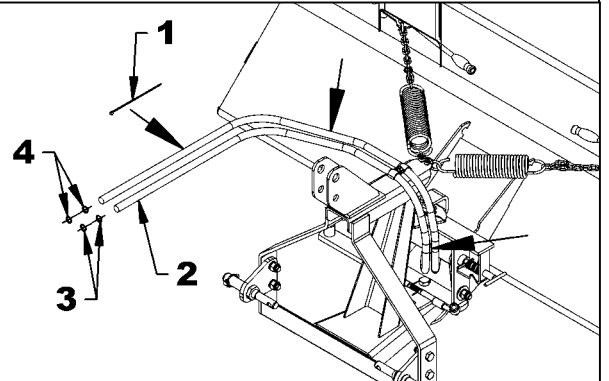

Figure 12A
2. **Figure 12A, B or C:** With three nylon tie wraps (item 1), attach together the hoses (item 2) to the places indicated by the arrows on the figure. The two other nylon tie wraps might be used to roll and attach together the hoses excess.
4. **Figure 12A, B or C:** Install a red identification ring (item 3) on the connector of a hose and the other red identification ring (item 3) on the related hydraulic output of the tractor valve. Install a blue identification ring (item 4) on the connector of the second hose and the other blue identification ring (item 4) on the second hydraulic output of the tractor valve.
**NOTE:** If the broom angling movement is not as desired, reverse the quick couplers on the valve and associate the colored plastic rings (fig.12A, B or C, items 3 and 4).